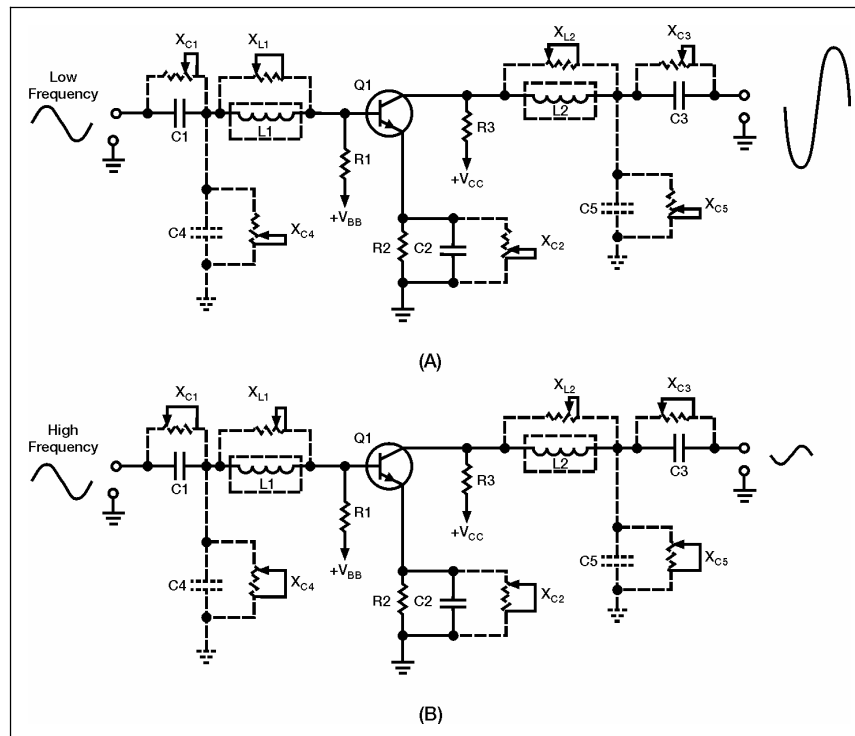

Figure 6-3. Amplifiers Showing Reactive Elements and Reactance
6-18. If you ignore the amplifying device (transistor, electron tube, and so on), and if the amplifier circuit is made up of resistors only, there should be no limits to the frequency response. Therefore, a totally resistive circuit would have no frequency limits. However, there is no such thing as a totally resistive circuit because circuit components almost always have some reactance. In addition to the reactance of other components in the circuit, most amplifiers use RC coupling. This means that a capacitor is used to couple the signal into and out of the circuit. There is also a certain amount of capacitance and inductance in the wiring of the circuit. The end result is that all circuits are reactive. Figure 6-3 shows amplifier circuits with the capacitance and inductance of the wiring represented as “phantom” capacitors and inductors. The reactance of the capacitors (X_C) and the inductors (X_L) are shown as “phantom” variable resistors. View (A) shows the circuit with a low-frequency input signal and view (B) shows the circuit with a high-frequency input signal.
6-21. Figure 6-3, view (A) shows the circuit with a low-frequency input signal. Remember that if frequency is low, capacitive reactance will be high and inductive reactance will be low. This is shown by the position of the variable resistors that represent the reactances. Notice that X_{L1} and X_{L2} are low. Therefore, they do not “drop” very much of the input and output signals. However, X_{C4} and X_{C5} are high. Therefore these reactances tend to “block” the input and output signals and keep them from going to the power supplies (V_{BB} and V_{CC}). Notice that the output signal is larger in amplitude than the input signal.
6-22. Figure 6-3, view (B) shows that the input signal is a high-frequency signal. Now X_C is low and X_L is high. X_{L1} and X_{L2} now drop part of the input and output signals. At the same time X_{C4} and X_{C5} tend to “short” or “pass” the input and output signals to signal ground. The net effect is that both the input and output signals are reduced. Notice that the output signal is smaller in amplitude than the input signal. Now you can see how the capacitance and inductance of the wiring affects an amplifier causing the output of an amplifier to be less for high-frequency signals than for low-frequency signals.